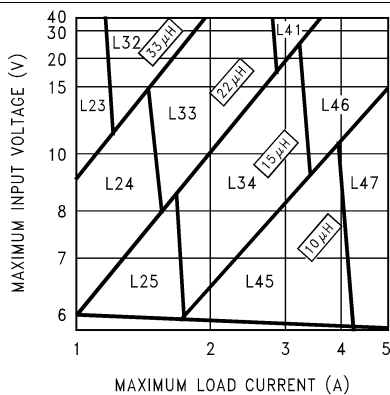

Figure 17. LM2678-3.3
Step 3: Determine the inductor required by using one of the four nomographs, Figure 17 through Figure 20. Table 3 provides a specific manufacturer and part number for the inductor.
Step 5: Determine an input capacitor from Table 5 for fixed output voltage applications. Use Table 1 to find the specific capacitor type. For adjustable output circuits select a capacitor from Table 1 with a sufficient working voltage (WV) rating greater than V_{IN} max, and an RMS current rating greater than one-half the maximum load current (2 or more capacitors in parallel may be required).
Step 3: Use the nomograph for the 3.3-V device, Figure 17. The intersection of the 16-V horizontal line ($V_{in\text{ max}}$) and the 4-A vertical line ($I_{load\text{ max}}$) indicates that L46, a 15- μH inductor, is required.